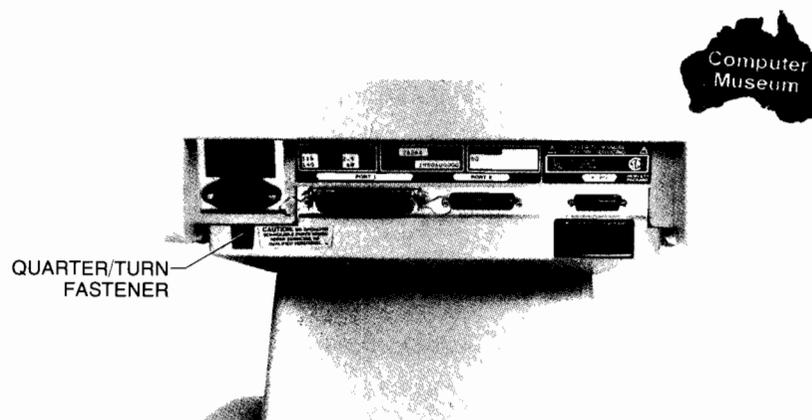

Figure 7-2. Terminal (Rear View)
2. Loosen the quarter-turn fastener at the left rear of the terminal (as viewed from the rear). See figure 7-2.